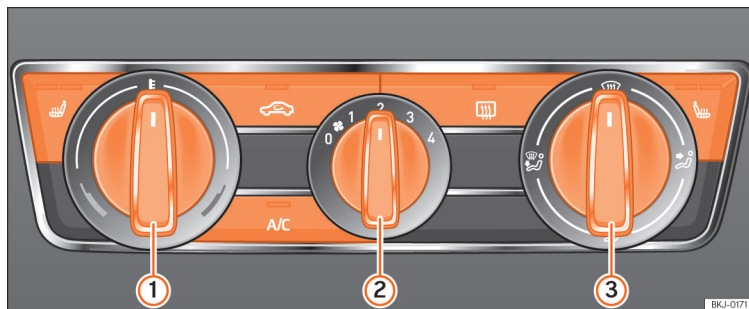

Fig. 170 Air conditioning controls on the dash panel.
- Turn off the cooling system using the **A/C** button »» Fig. 170 (the button light turns off).
- Turn the temperature regulator ① to set the desired temperature inside the vehicle.
- Set the air distribution regulator ③ to the air flow configuration desired:  (towards the windscreen),  (towards the chest),  (towards the footwell) and  (towards the windscreen and footwell).